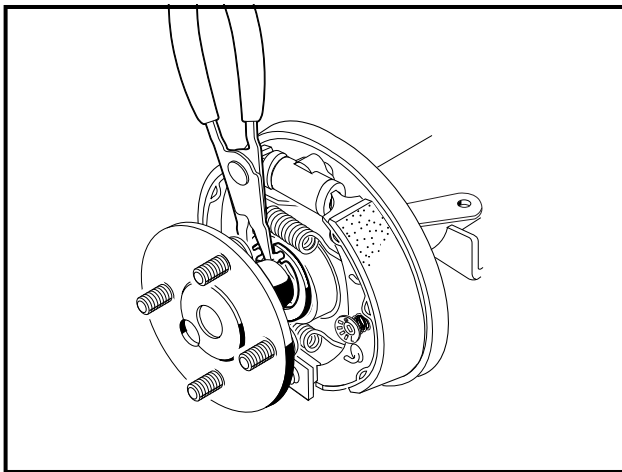

Figure 6-19 Remove Axle Retaining Ring
- 2.1. Using 90° internal snap ring pliers (.090 tip) (CCI 1012560), remove internal retaining ring from axle tube (**Figure 6-19, Page 6-21**).